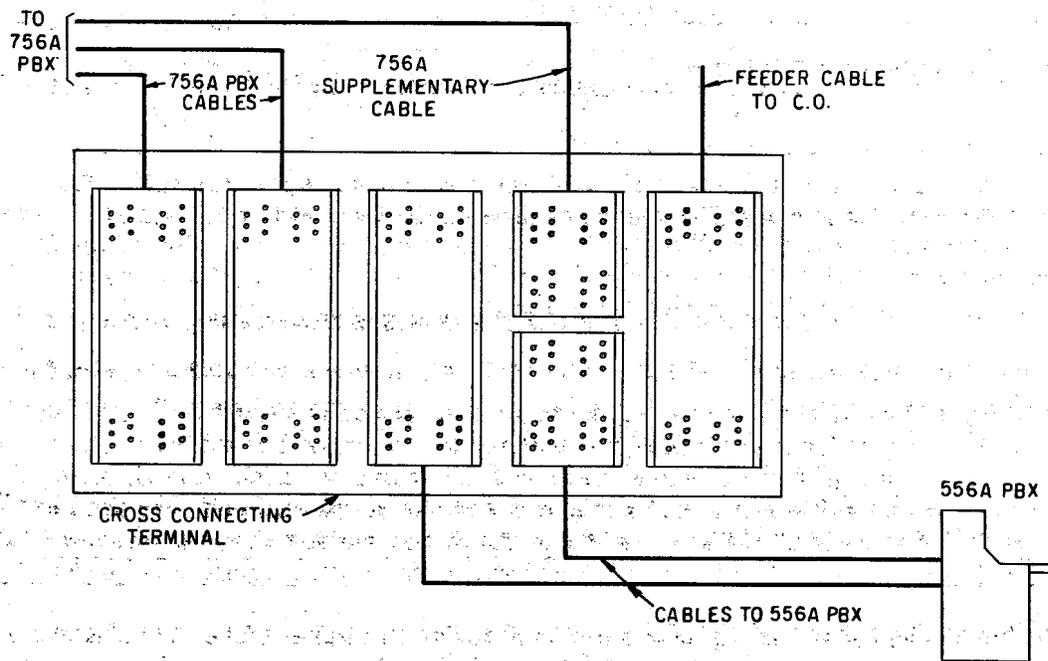

Fig. 4 — Typical Arrangement of Cross-Connecting Terminal Showing Binding Post Chambers for 556A PBX
3.08 The binding post chambers or connecting blocks and adapters to be used with the PBX should, if possible, be installed in the cross-connecting terminal provided for the 756A PBX. See Fig. 4. If this is not possible, an additional terminal must be provided and should be mounted as near as possible to the cross-connecting terminal of the existing 756A PBX installation.
3.11 A supplementary plug-in cable should be provided between the 756A PBX and the cross-connecting terminal for the 556A PBX. (See Fig. 4.) Run and fasten this cable and terminate as shown in Section B556.201.